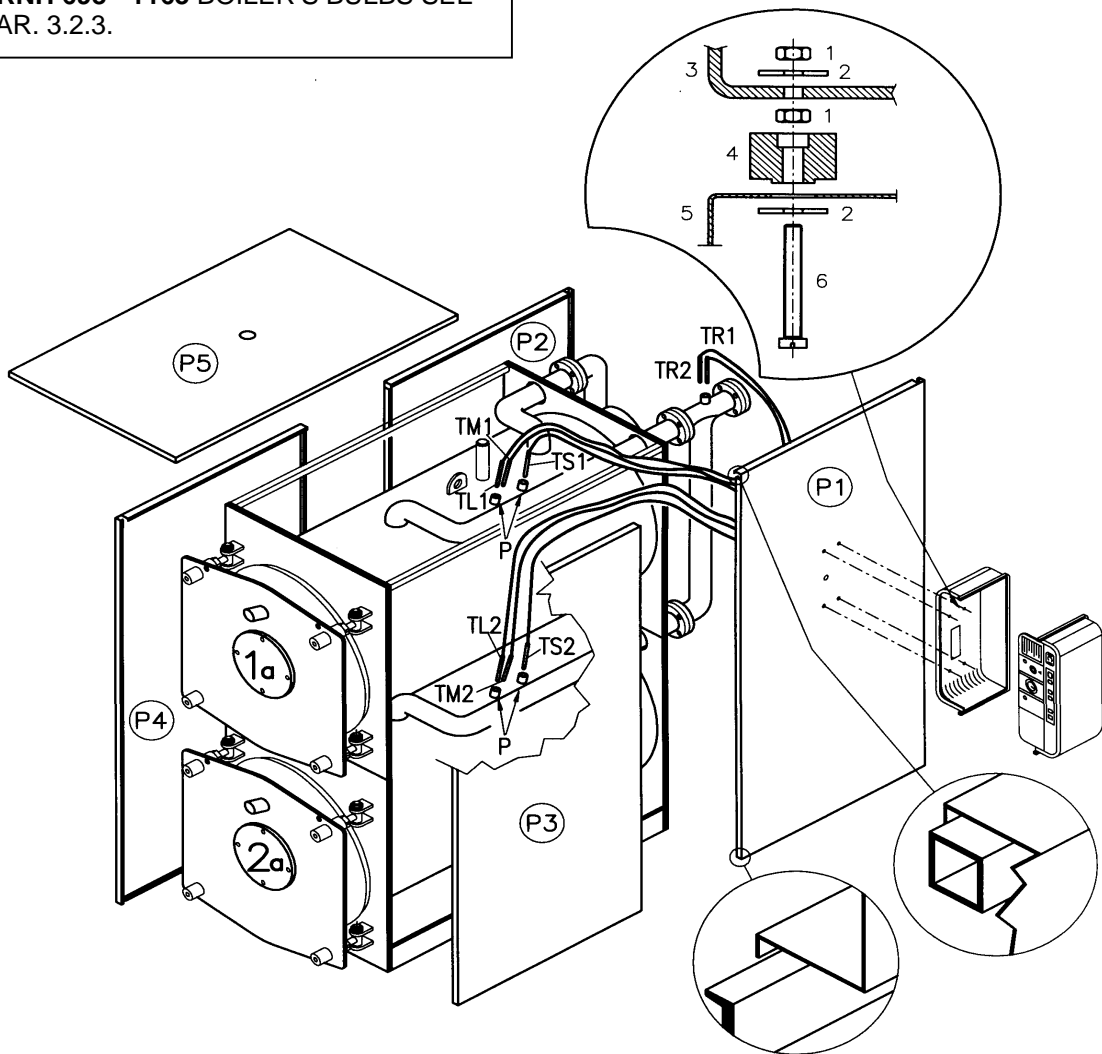

Fig. 11
4.4. DRNV&H BOILER CASINGS (Fig. 11)
- a) Wrap the rock wool around the boiler body leaving the bulb well (P) on the right side exposed.